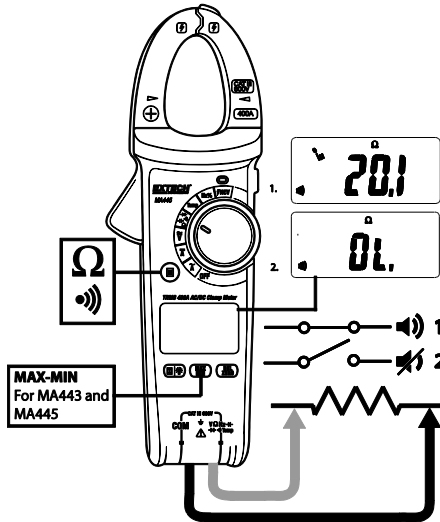

Fig. 7 – Resistance and Continuity Measurements
3. Insert the black test lead banana plug into the negative (COM) jack. Insert the red test lead banana plug into the positive ( $\Omega$ ) jack. See Fig. 7.
3. Insert the black lead banana plug into the negative (COM) jack. Insert the red test lead banana plug into the positive ( $\Omega$ ) jack. See Fig. 7 above.